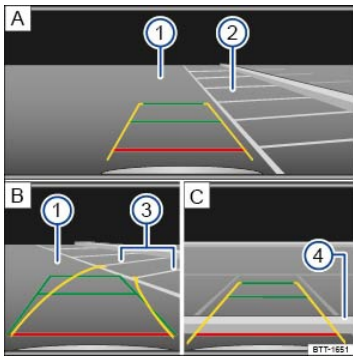

Fig. 138 Orientation lines for perpendicular parking.
Key to ⇒ Fig. 138 :
- Position the vehicle in front of the parking space ⇒ Fig. 138②**A**.
- Slowly back up and steer so that the yellow orientation lines lead into the selected parking space ③ **B**.
- Align the vehicle in the parking space so that the green and yellow orientation lines are parallel to the selected parking space ③ **B**.
- Stop the vehicle before (or at the very latest, when) the horizontal red line reaches the rear boundary, for example, a curb ④ **C**.